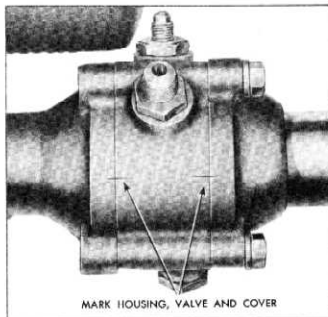

Fig. 31—Mark Housing, Valve and Cover
- Mark the cover, valve body and gear housing to insure proper positioning of the parts on reassembly (fig. 31). A double mark at the upper or cover end of the valve body will aid in the reassembly.